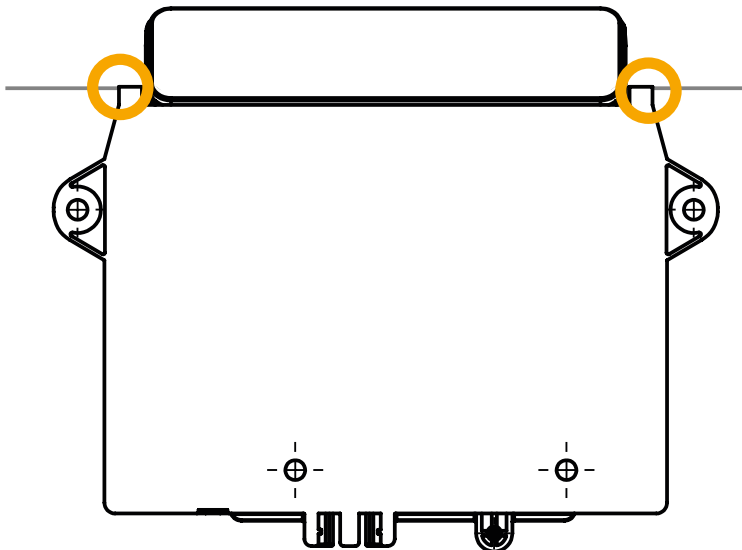

Fig. 11: Positioning the TOUCHdown on the Table Top
1. Position the Handset under the table top and mark the position of the drilling holes (Fig. 11). Alternatively, use the Drilling Template in Chapter 5.3.2 to help you. Ensure that the corners circled in the diagram below are flush with the edge of the Table Top.